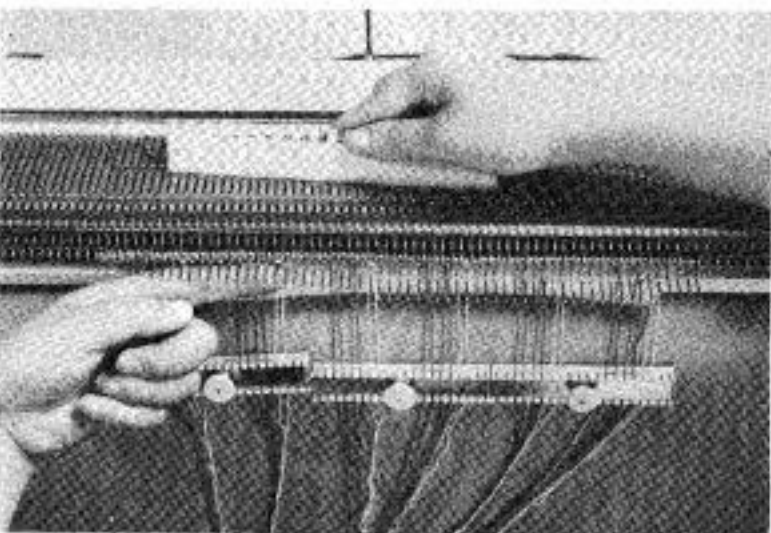

Fig. 154
(d) Bring forward into Position (E) every working needle and knit one row. (Fig. 154)